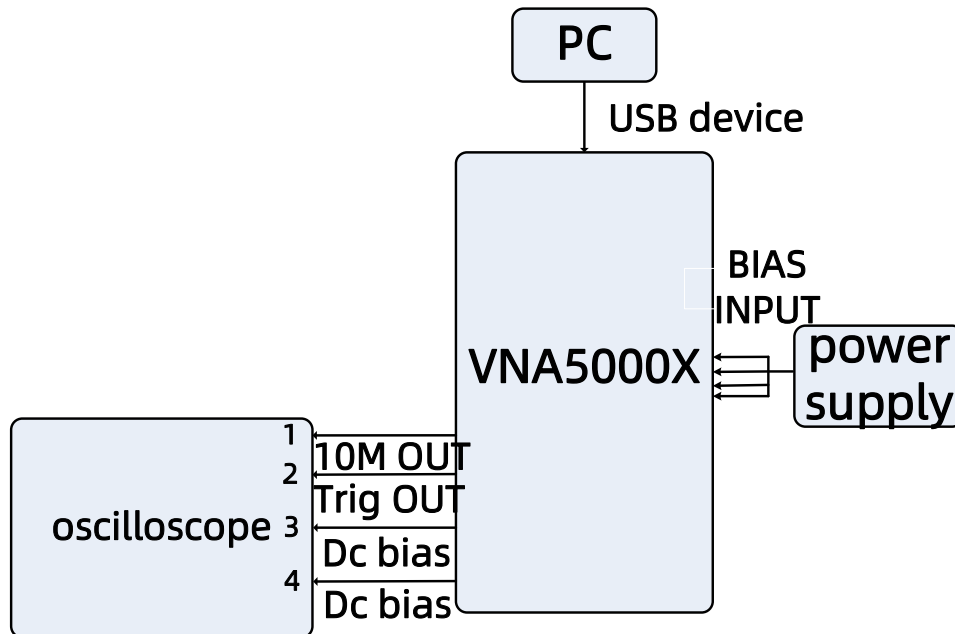

Figure 6-9 Equipment setup 1
cable, as shown in Figure 6-9
1. Connect oscilloscope SDS5000X port to 10M port of network analyzer, as shown in Figure 6-9
1. Connect oscilloscope SDS5000X port to Trigger OUT port of network analyzer, as shown in Figure 6-9